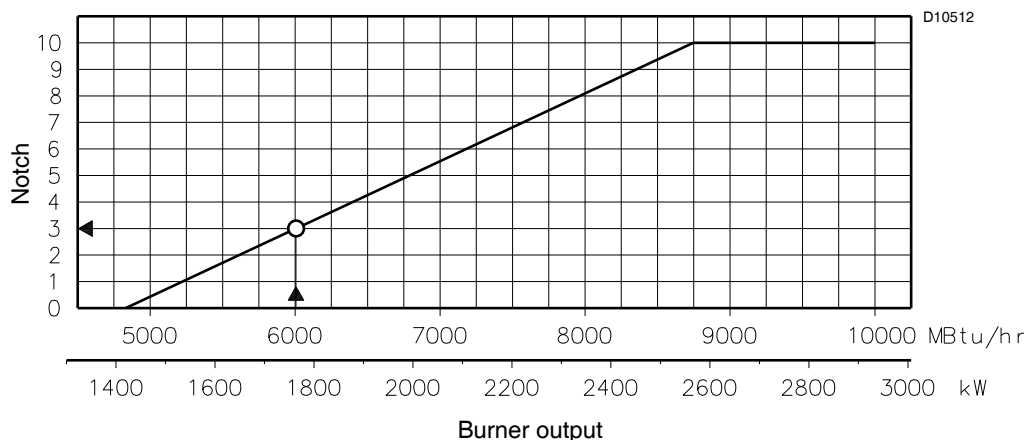
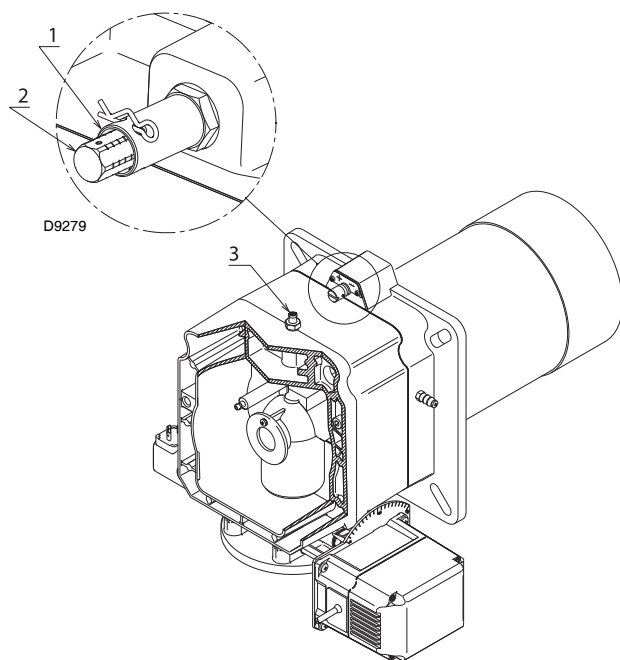

Fig. 15
Fig. 16
In the diagram of Fig. 15, find the notch at which to adjust both air and central gas/air.
Rotate the screw 2) (Fig. 16) until the notch you have found corresponds with the front surface 1) of the flange.
To facilitate adjustment, loosen the screw 3) (Fig. 16), adjust and then lock.
The diagram of Fig. 15 shows that the adjustments for this potential is external air R1 = notch 3.
- Ring nut 2)(Fig. 16) adjusted as in the diagram of Fig. 15